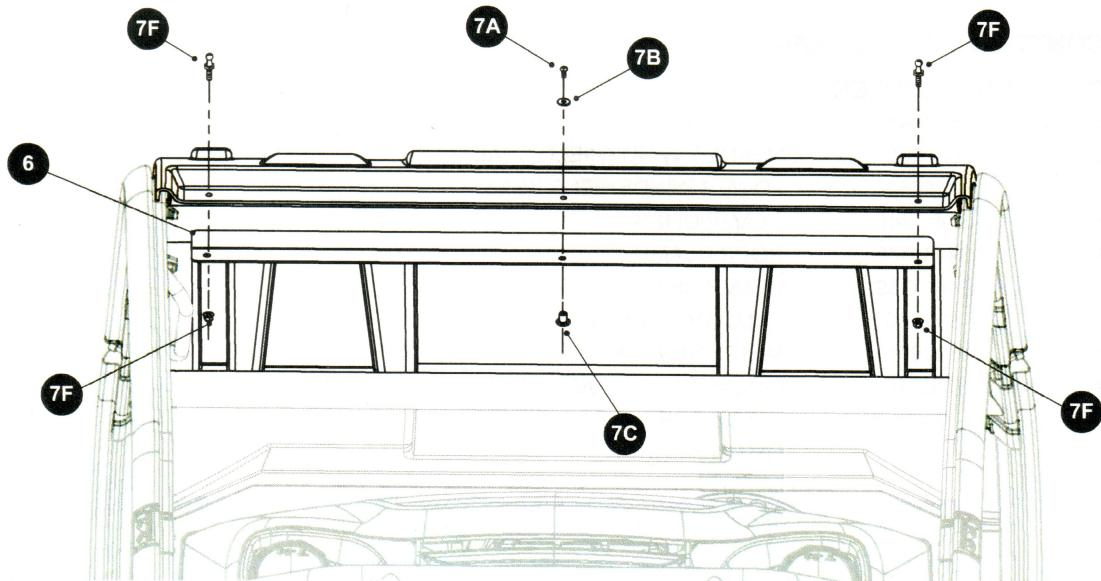

Fig. 1
1. Place the top of the windshield header (6) flush to the bottom side of the canopy.
2. Use the header pins (7F) and latch fasteners (7A,7B, and 7C) to install windshield header (6), as shown in Fig. 1. Finger tighten header pins (7F) until end of installation.
NOTICE: Figure 1 demonstrates formation for Split Windshield (682912). For Full Windshield (682913) use three latch fasteners (7A,7B, and 7C) across header.